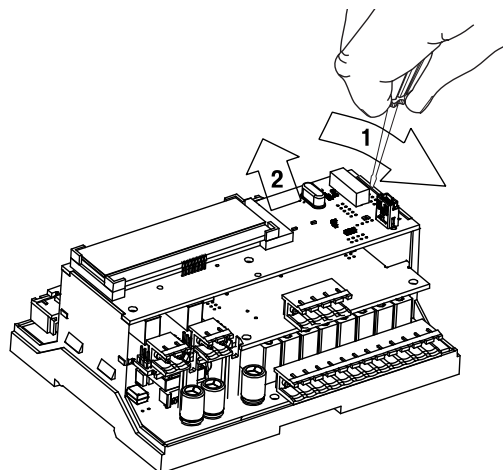

Fig. G.2 Top circuit board removing
2. Use a screwdriver to pry the top board near the USB connector and carefully separate it from the middle board. (Fig. G.2).
2. Use a screwdriver to pry the top board near the USB connector and carefully separate it from the middle board. (Fig. G.2, H.1a).